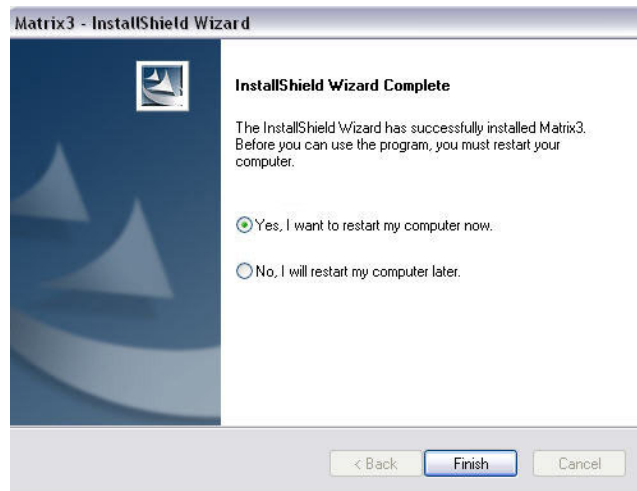

FIG. 10
12. When the installation is complete the screen shown in FIG. 10 displays. Before Matrix functions on the PC you will have to reboot the computer. Select Yes, I want to restart my computer and click the **Finish** button to reboot.
14. When the installation is complete the screen shown in FIG. 10 displays. Before Matrix functions on the PC you will have to reboot the computer. Select Yes, I want to restart my computer and click the **Finish** button to reboot.